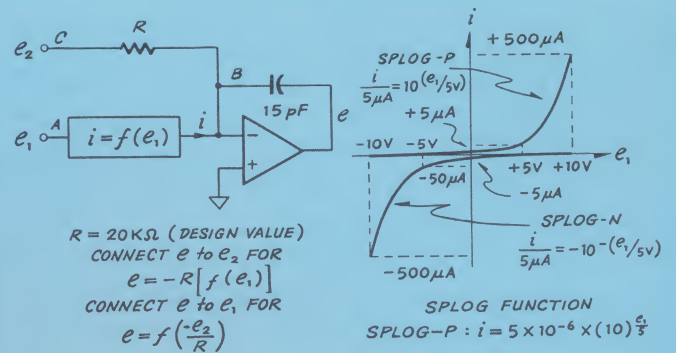

Figure 4
**BASIC CIRCUIT—LOG OR ROOT RESPONSE.** If we connect a nonlinear network or device so that it is driven by the output of an Operational Amplifier, and feeds back a current related to the voltage in a predictably nonlinear manner, the response of the circuit of Fig. 4 (with  $e_1$  connected to  $e$ ) will be: